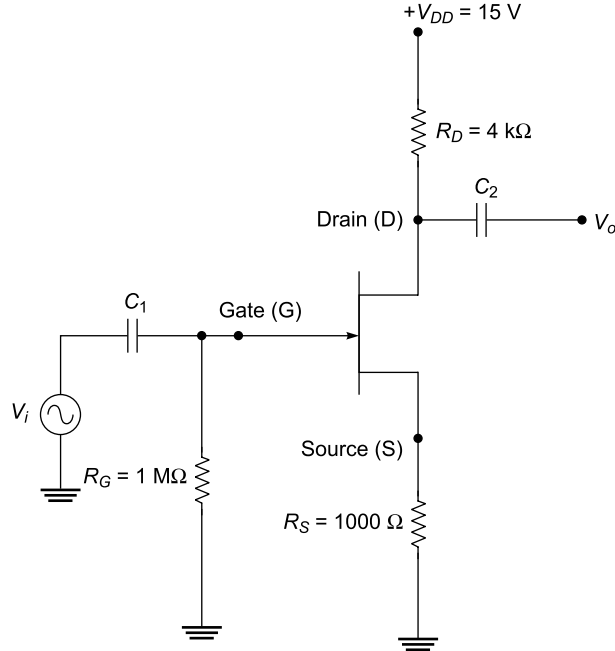

Fig. 1.83
1.17 Find the value of voltage gain of a FET amplifier as shown in Fig. 1.83. The FET has the following parameters: